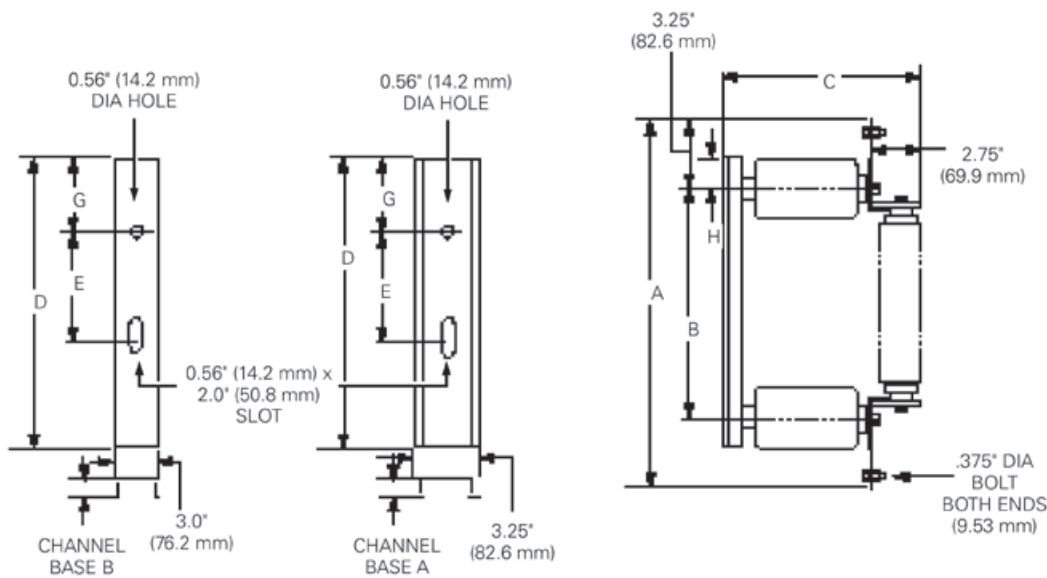

Figure 1. Single fuse, single-pole mounting (FAB1D series) for clip-mounted fuses (refer to Table 2 for dimensions).
Table 2. Ratings and Dimensions of Channel-Based Mountings for Clip-Style Fuses (See Figures 1 and 2)
** Refer to Figures 1 and 2 for dimensional drawings.